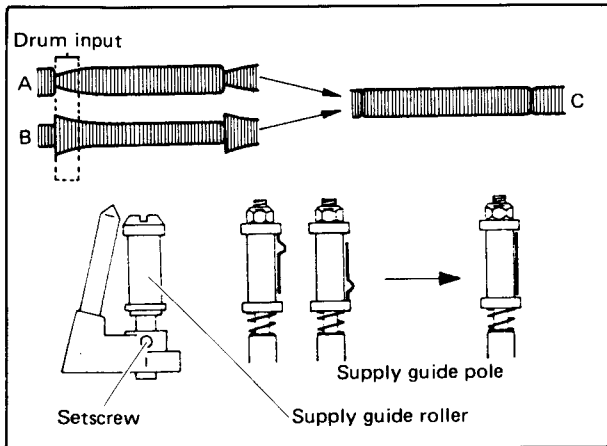

Fig. 4-47 Drum input adjustment
5. Refer to Fig. 4-47. Examples of incorrect waveforms are shown by A and B.